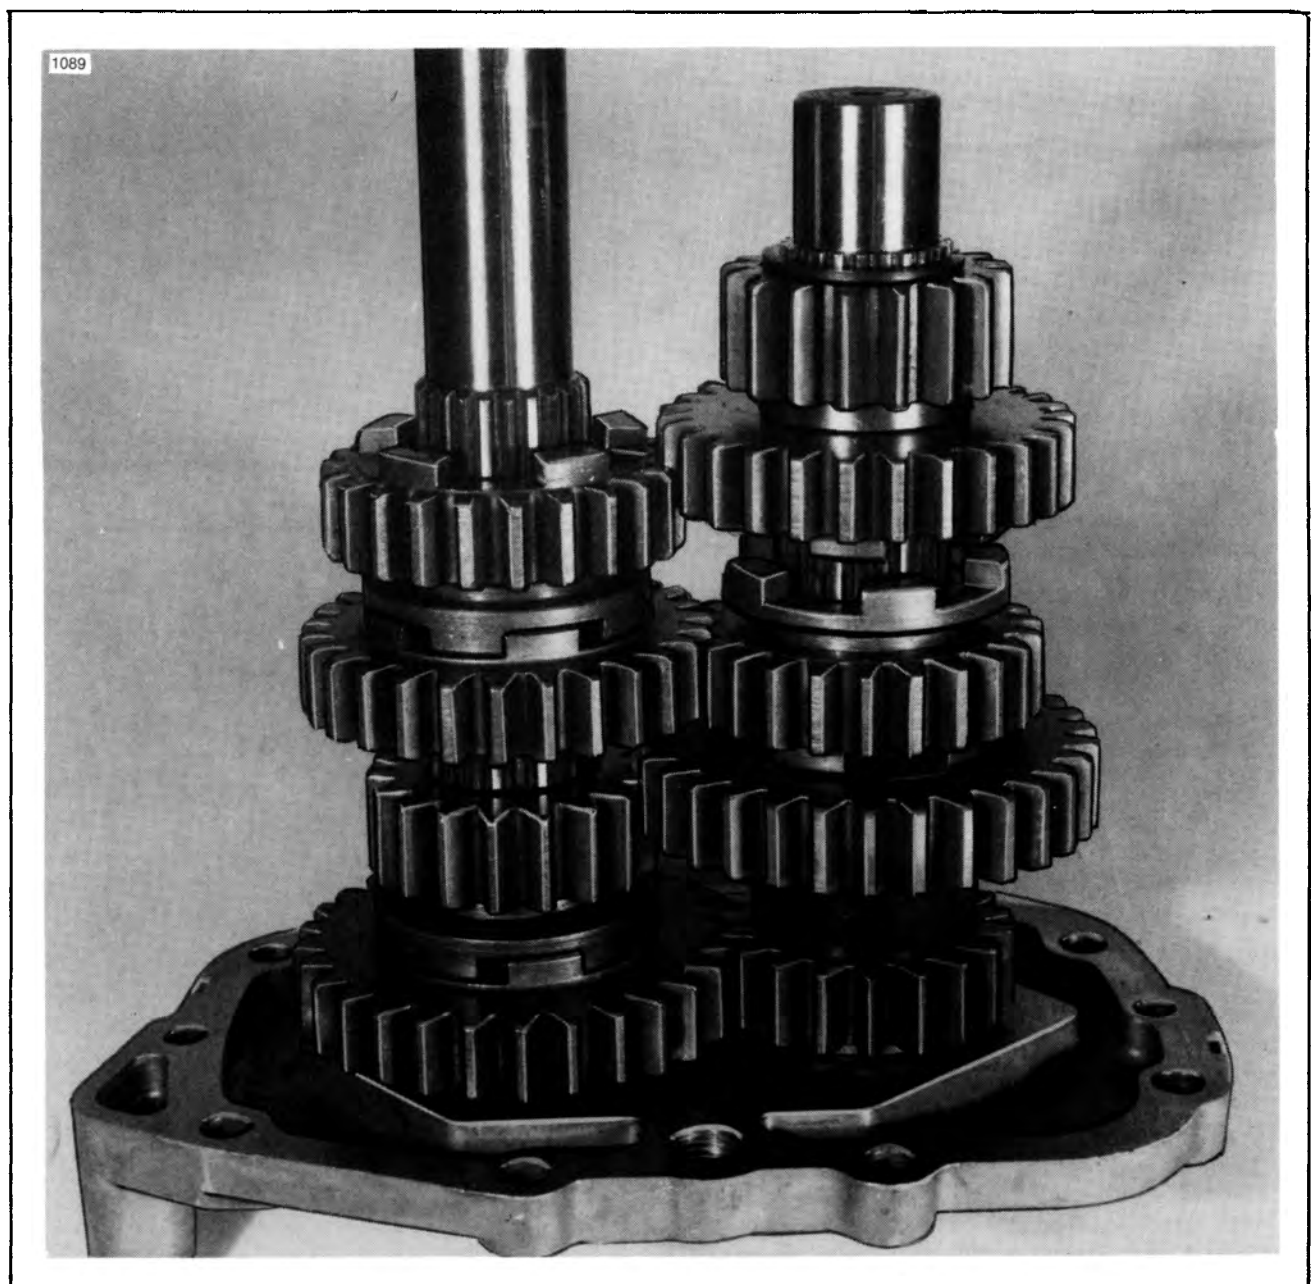

Figure 7-20. Side Door, Mainshaft and Countershaft — Final Assembly
10. Install a retaining ring (12) in the countershaft groove above 3rd gear (17). Slide a thrust washer (11) on top of the ring and place the bearings in the countershaft race. Install the countershaft 2nd gear (19) over the bearings.
11. Install the spacer (20) on 1984 - early 1987 models, and the countershaft 5th gear (21) on the countershaft. Secure 5th gear with a retaining ring.
12. Install the mainshaft 2nd gear (22) on the shaft with the shifter fork slot towards the side door. See Figure 7-20 for final assembly.